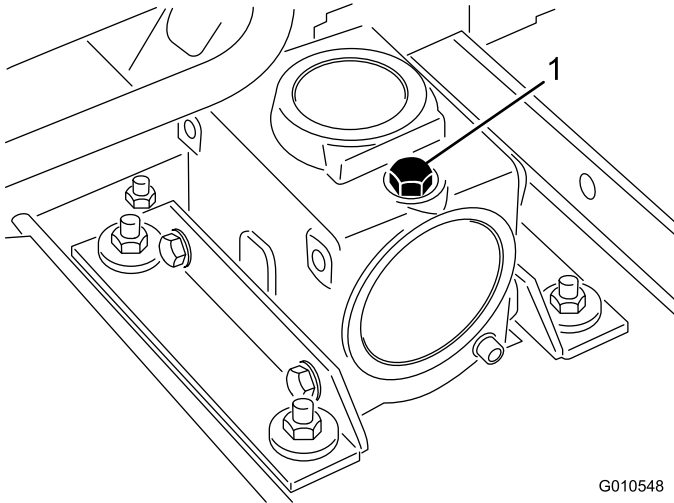

Figure 12
2. Remove the dipstick/fill plug from the top of the gear box (Figure 12) and make sure that the lubricant is between the marks on the dipstick. If the lubricant level is low, add enough lubricant until the level is between the marks.